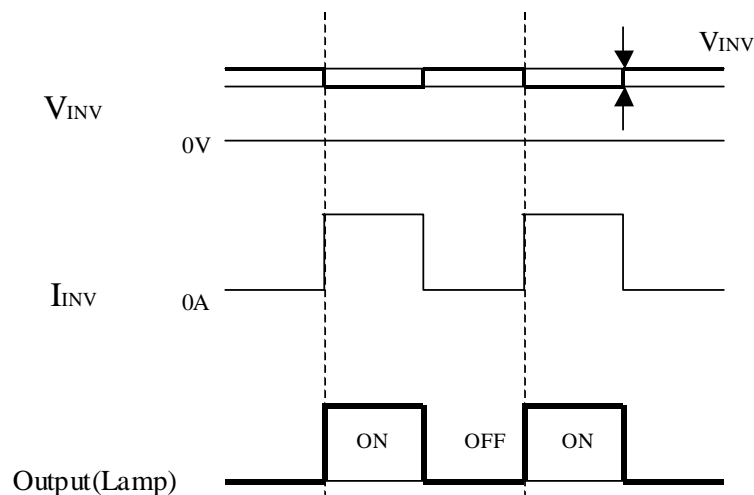

Fig.5 Brightness control and ripple of  $V_{INV}$
- Brightness control voltage is switched for "ON" and "OFF", as shown in Fig.5. Voltage difference generated by this switching,  $V_{INV}$ , may affect a sound output, etc. when the power supply is shared between the inverter and its surrounding circuit. So, separate the power supply of the inverter circuit with the one of its surrounding circuit.